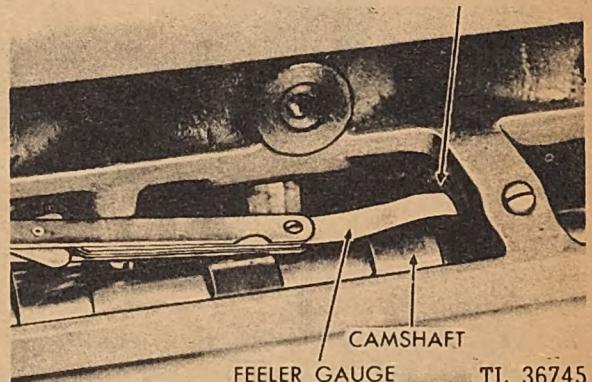
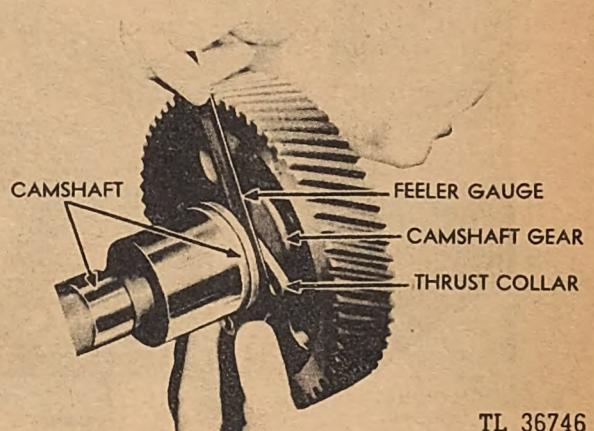

Fig. 93. Checking Camshaft to Bushing Clearance
Fig. 94. Checking Camshaft End Play
(2) Carefully pull the camshaft out a few inches and check the camshaft end play as shown in Figure 94. The desired camshaft end play is .003 inch to .009 inch; permissible is .015 inch. Check the camshaft bushing clearance with a feeler gauge between each of the four bushings. (See Figure 93.) The clearance should be between .0014 inch to .004 inch; permissible .006 inch. If the clearance exceeds the permissible, replace the bushing.
The camshaft end play, which can be checked between the hub of the gear and the thrust collar, as shown in Figure 94, should be between .003 inch and .009 inch; maximum before replacement .015 inch. If the clearance is more, the thrust collar should be replaced.
*d. Checking Camshaft Bushings.* The camshaft runs in four bronze bushings which are pressed in the crankcase. The desired camshaft bearing clearance is between .0014 inch and .004 inch and can be checked with a feeler gauge as shown in Figure 93. If the clearance exceeds .006 inch, the bearings must be replaced. The bearings are of the precision type and do not require reaming after being pressed into the case.